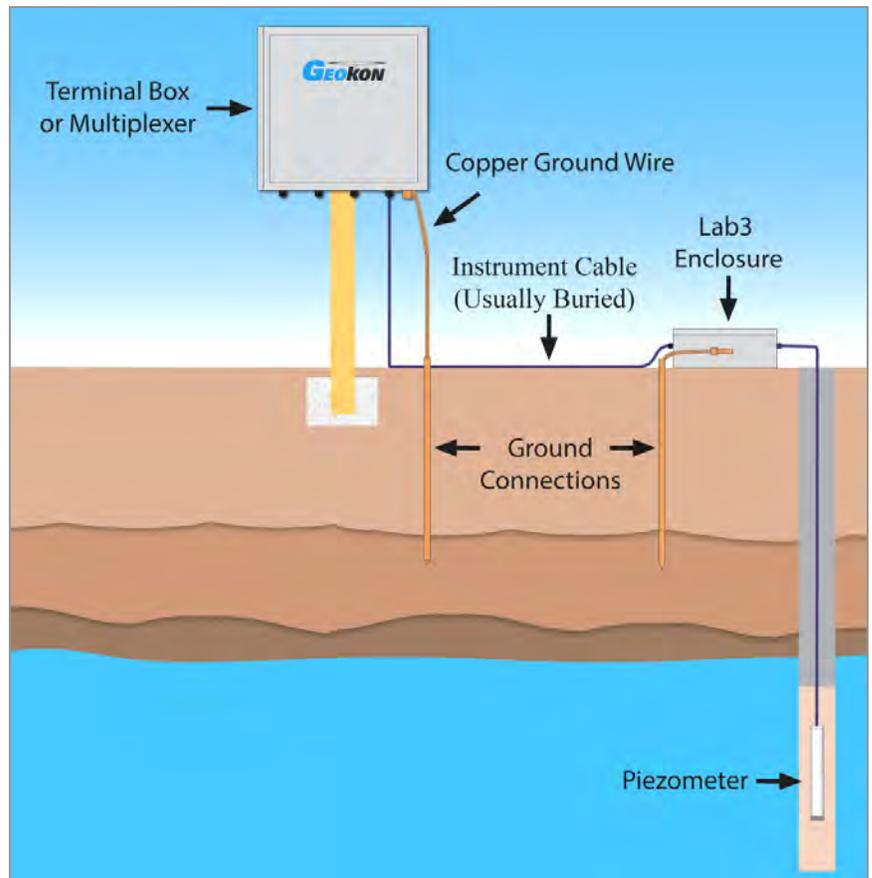

FIGURE 9: Recommended Lightning Protection Scheme
- Placing a Lightning Arrestor Board (LAB-3), in line with the cable, as close as possible to the installed piezometer (see Figure 9). These units utilize surge arrestors and transzorb to further protect the piezometer. This is the recommended method of lightning protection.